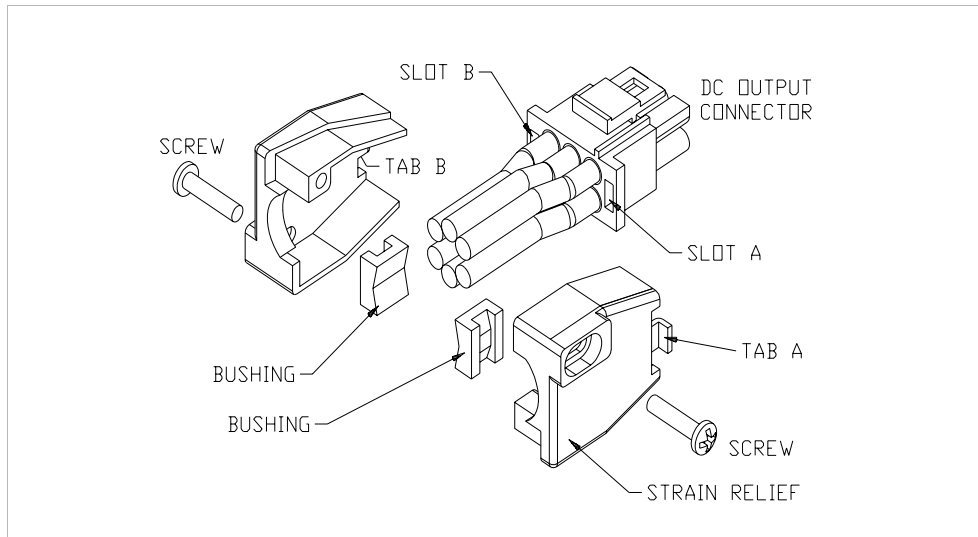

Figure 2.4 Strain Relief Assembly
3. Insert strain relief tab A into DC output connector slot A. Insert strain relief tab B into DC output connector slot B. See Figure 2.4.